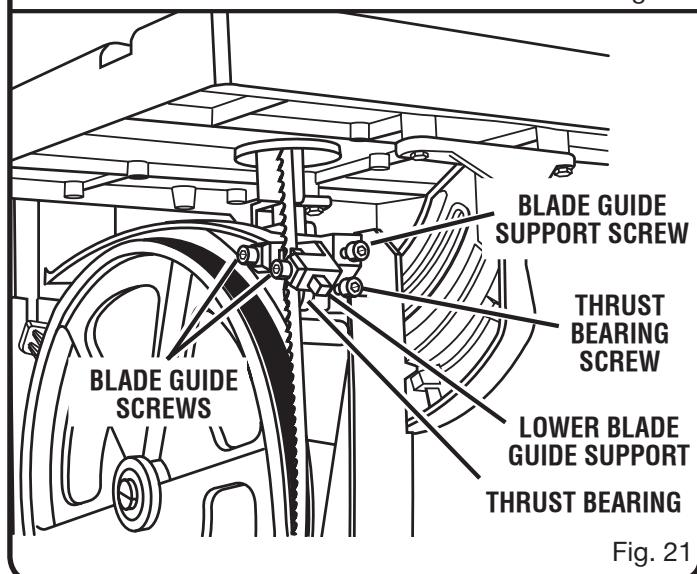

Fig. 21
NOTE: The lower blade guide support screw is the top screw located on the right of the saw housing under the table. *See Figure 21.*
- Repeat this procedure on the lower blade guides located under the saw table. *See Figure 21.*